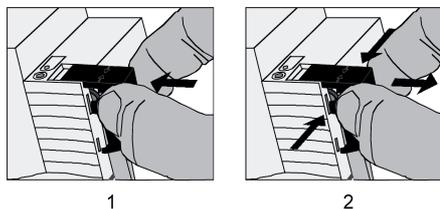

Figure 3: Installing / removing the protective cap for the bus connection
- To install the cap: slide the cap over the bus terminal until you feel it engage (figure 3).
- To remove the cap: Remove the cap by pressing the sides slightly and by pulling it out to the front (figure 3).